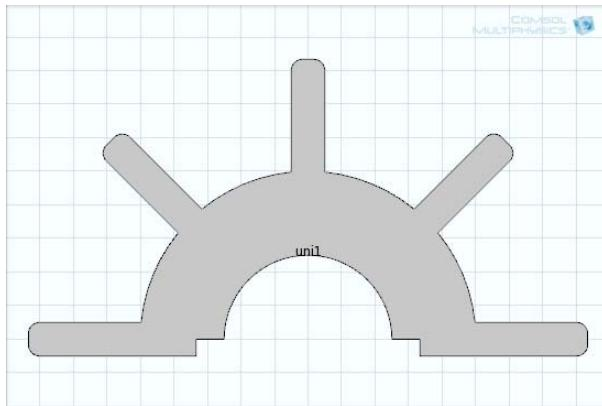
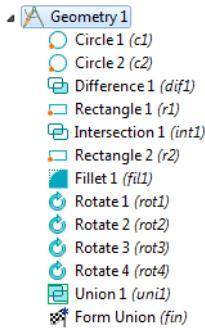

Figure 6-7: Final 2D object created in the Model Builder.
Figure 6-8: An example of a 2D geometry sequence.
- 4 Click the **Build All** button (). Click the **Zoom Extents** button (). The final geometry is shown in Figure 6-7.
Figure 6-8 shows the geometry sequence used to create Figure 6-7. All primitive objects and the fillet operation are parameterized through the radius of the inner and outer heat sink arcs, the length and thickness of the flanges, and the radius of the fillets. You can change the parameter values in the **Parameters** table or for any object to create alternative heat sink geometries. The sequence still remains, and when you click the **Build All** button () a new geometry is created.